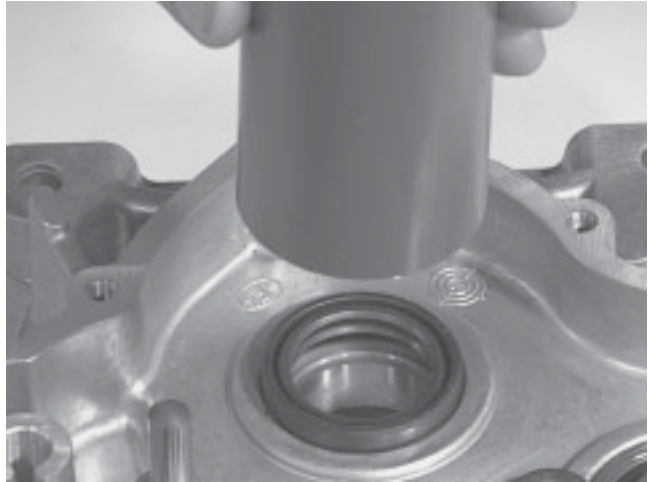

Fig. 37, figure similar
- ⇒ Insert the shaft seal for the hollow shaft with the mounting sleeve, as shown in Fig. 37.